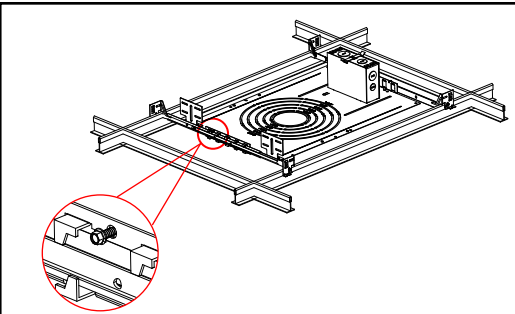

Figure 13
2. Adjust and center the downlight opening hole as desired, by sliding the frame along the bar hangers. Lock and secure the frame with the bar hangers by tightening the edging screws. (Fig.13)